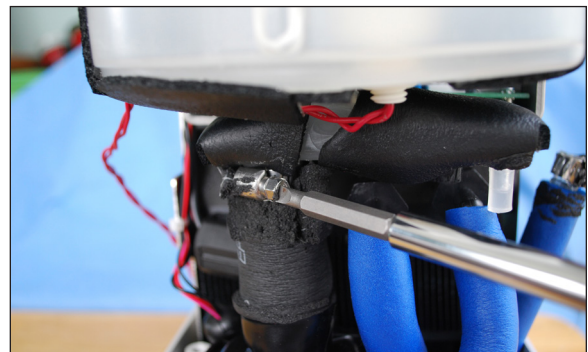

Figure 56 - Step 5 Loosen two hose clamps
5. Use the slotted screwdriver to loosen the two hose clamps at the tubing connection to the reservoir (Figure 56).